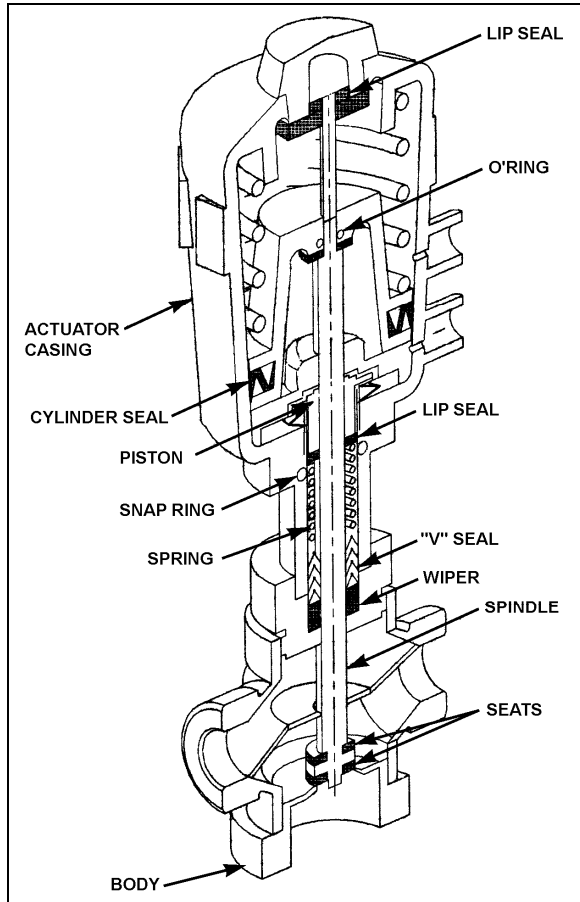

FIGURE 48: PNEUMATIC WATER VALVE
2. Tighten the nipple in place in the body cavity as per figure 48. Fasten pilot solenoid valve to the pneumatic water valve. Reconnect air supply pressure and electrical current to the pilot solenoid valve.